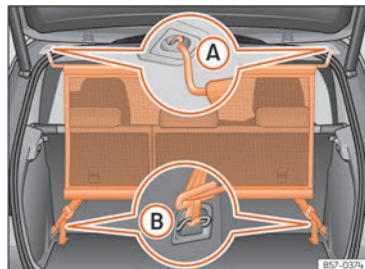

Fig. 138 Net partition fitted.
- Secure the net partition in the left housing of the roof »» Fig. 138 (A). Make sure to move the cross rod down beyond the upper position.
- Hook in the net partition on the rear right-hand side roof housing by pressing on the rod »» Fig. 138 (A).
- Secure two hooks of the partition net to the fastening rings of the boot »» Fig. 138 (B) and tighten the straps firmly.